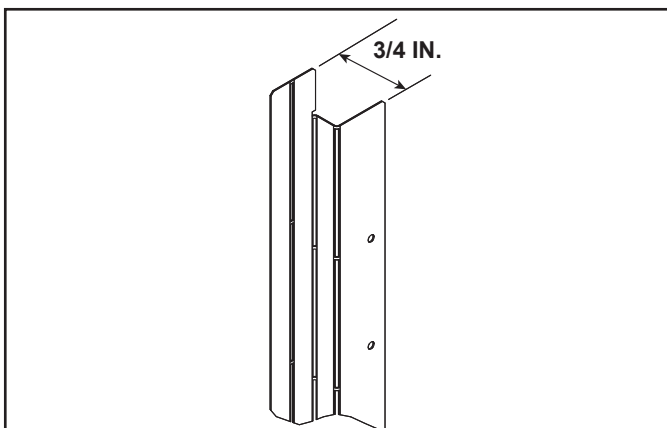

Figure 13.1 Side Finishing Template Bend - LMOD Series Doors
2. Bend the left and right side templates for the appropriate door type using Figure 13.1 as a reference.